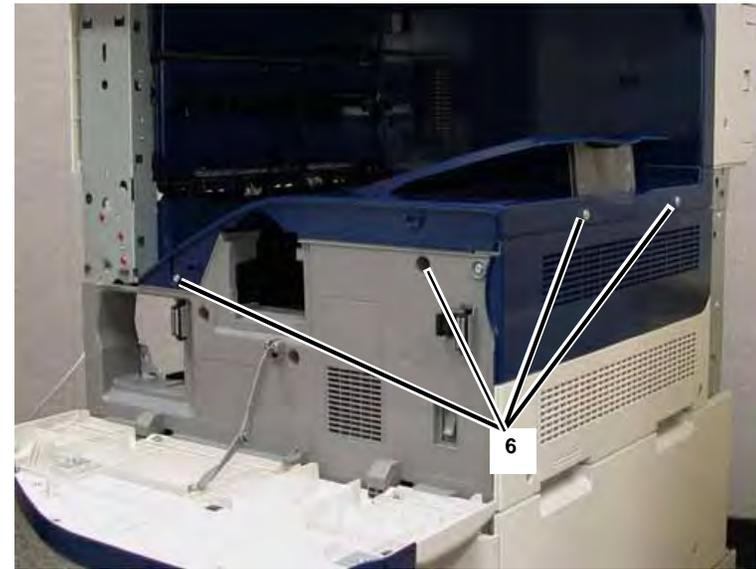

Figure 5 Removing Screws
6. Remove the Top Cover Screws (4) (Figure 5).